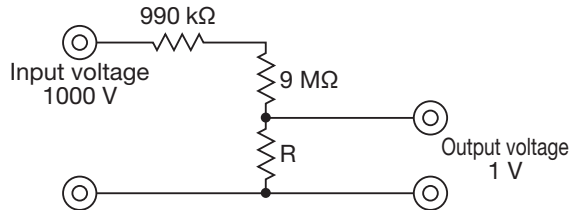

Fig. 6-1
- When the input voltage is 1000 V in Fig. 6-1, find R in  $\Omega$  with which 1 V is obtained as the standard output (uniform different units of resistance for calculation). Assume that the input resistance of the LSI connected to the output connector is infinite ( $\infty$ ).